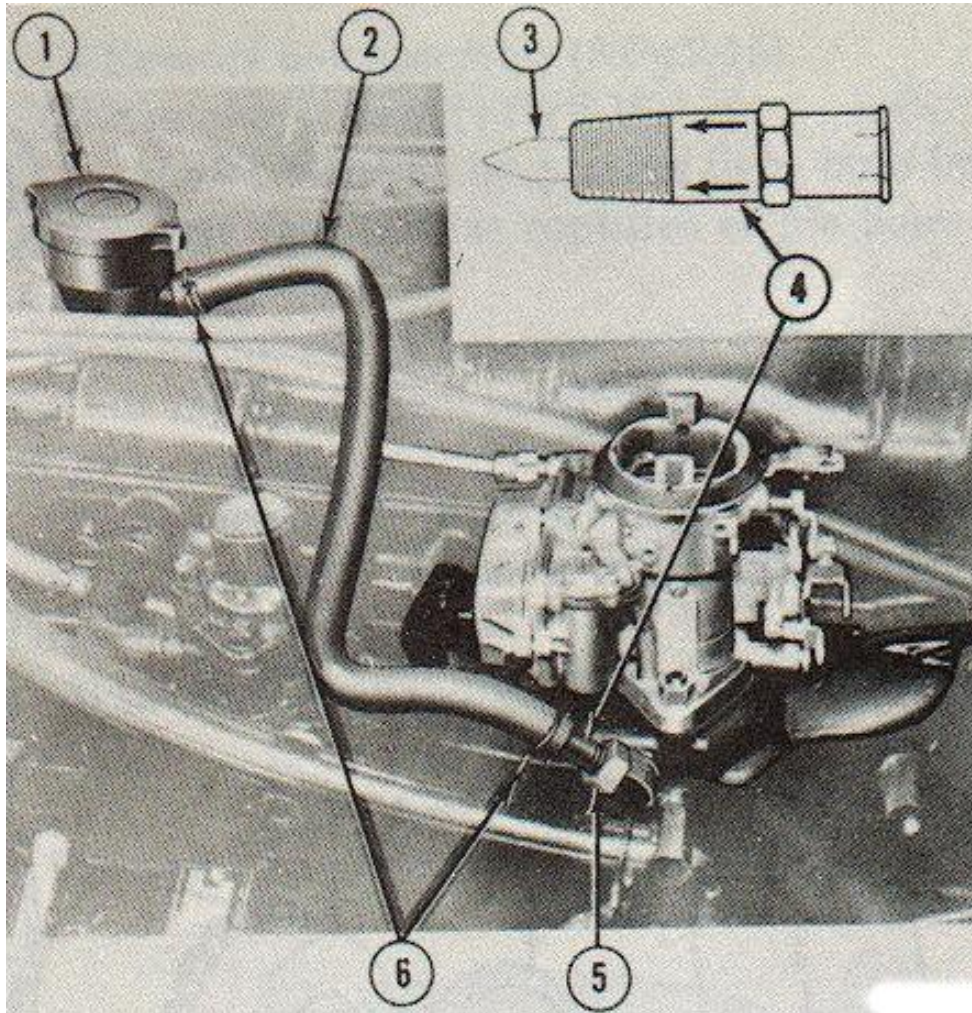

Figure 2-17. Crankcase ventilation valve.
- (1) Disconnect rubber fuel lines connecting inline fuel filter.
- (2) Remove fuel filter and discard.
d. Crankcase Ventilation Valve. (Fig 2-17)
- (1) Remove crankcase ventilation valve hose clamp at valve intake manifold adapter and pull hose from valve.
- (2) Remove valve from adapter by screwing counter-clockwise.